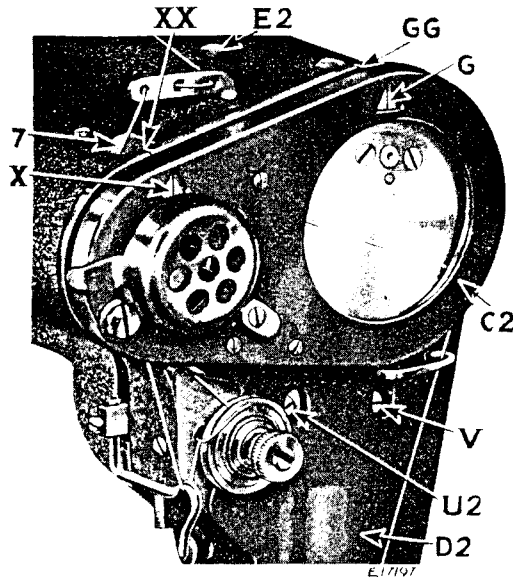
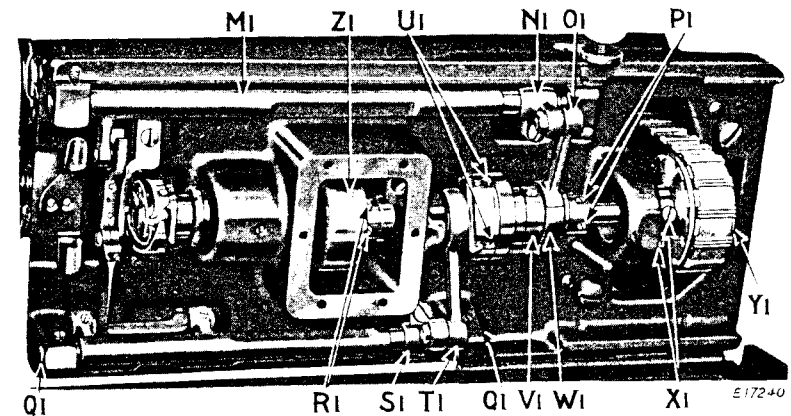

Fig. 21. Showing Timing Marks on Take-up Discs and Face Plate
Fig. 28. Underside of Machine
The arm shaft, auxiliary take-up shaft and hook driving shaft with their component parts are in time with each other when: the arrow (G, Fig. 21) on the large take-up disc is in line with the mark (GG, Fig. 21) on the face plate; the arrow (X, Fig. 21) on the small take-up disc is in line with mark (XX) on the face plate; and the arrow on the collar (V1, Fig. 28) is in line with the timing mark (W1, Fig. 28) on the feed lifting connection. The needle bar and hook are timed as described on page 23.
Remove the sewing hook as instructed on page 25. Loosen the pinch screw in the feed lifting rock shaft crank (N1, Fig. 28) and drop the feed bar (AA),
Slip the belt off the lower pulley (Y1, Fig. 28), then loosen the two set screws (X1) and remove the pulley from the shaft. Loosen the four set screws (U1 and P1) in the feed and feed lifting eccentrics, and the two set screws (R1) in the internal gear. Do not loosen the screw in the collar (V1). Withdraw the shaft with ball bearing from the pulley end.
If it is found necessary to replace the ball bearing on the hook driving shaft, or to reset or replace the hook driving shaft bushing, note that the ball bearing is correctly positioned when the pulley (Y1, Fig. 28) is flush with the ball bearing on one side and its hub is flush with the end